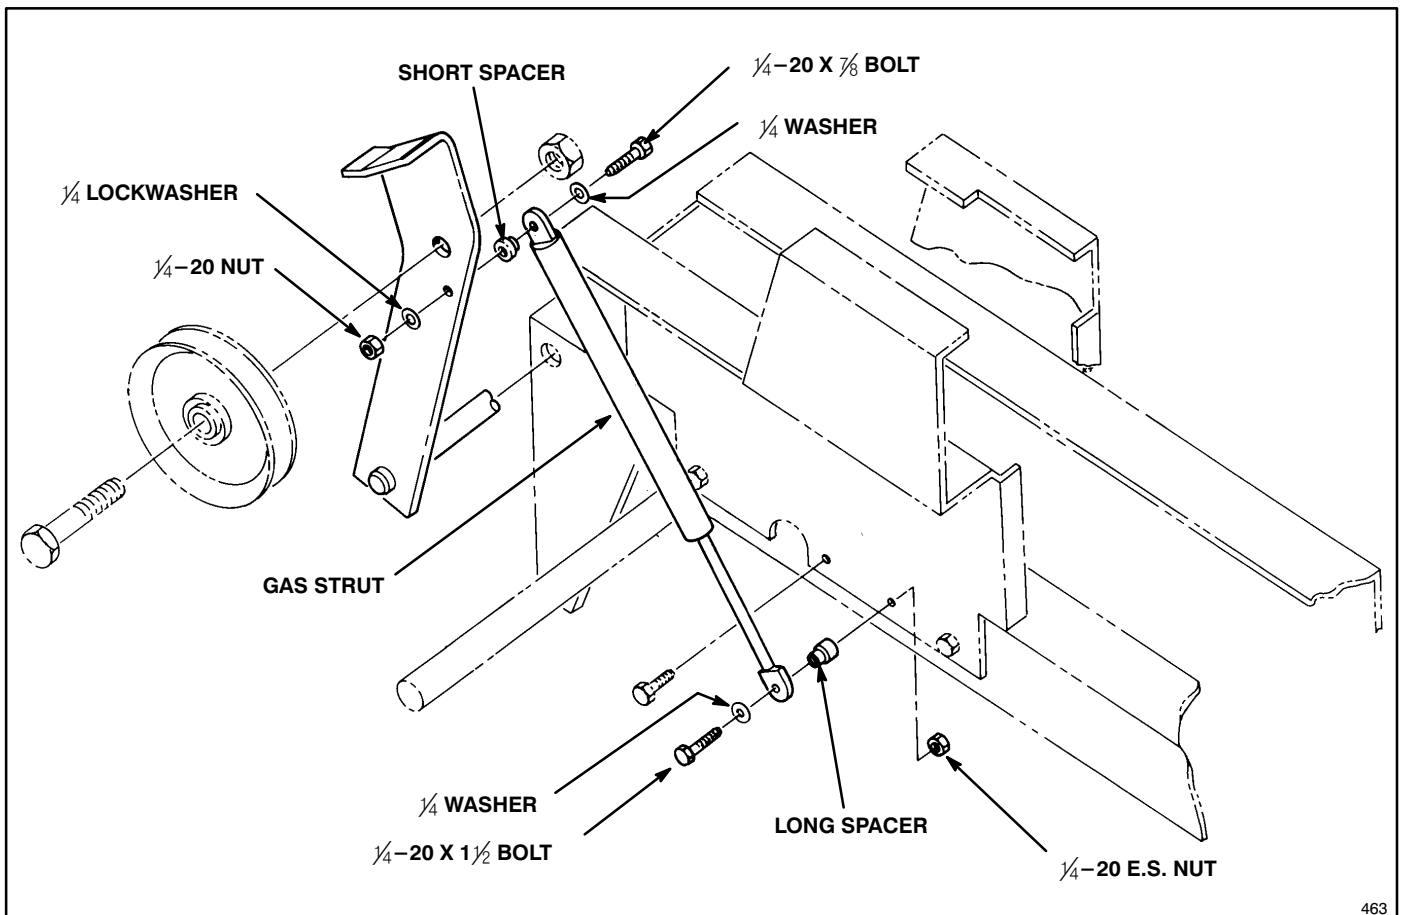

Figure 3
6. Assemble gas strut as shown in Figure 3.